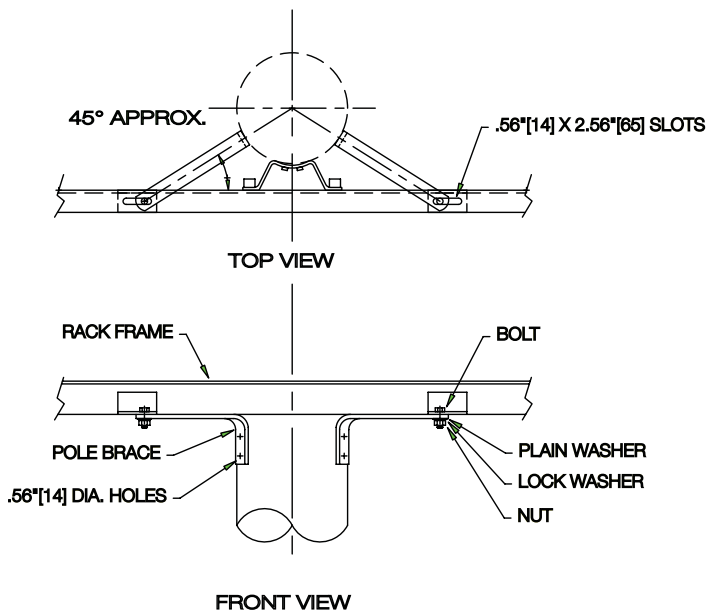

Figure 3.
1. Using the furnished hardware, attach one end of a brace to the slot located under the capacitor mounting angle on the rack frame as shown in Figure 3, but do not tighten the nut on the bolt.